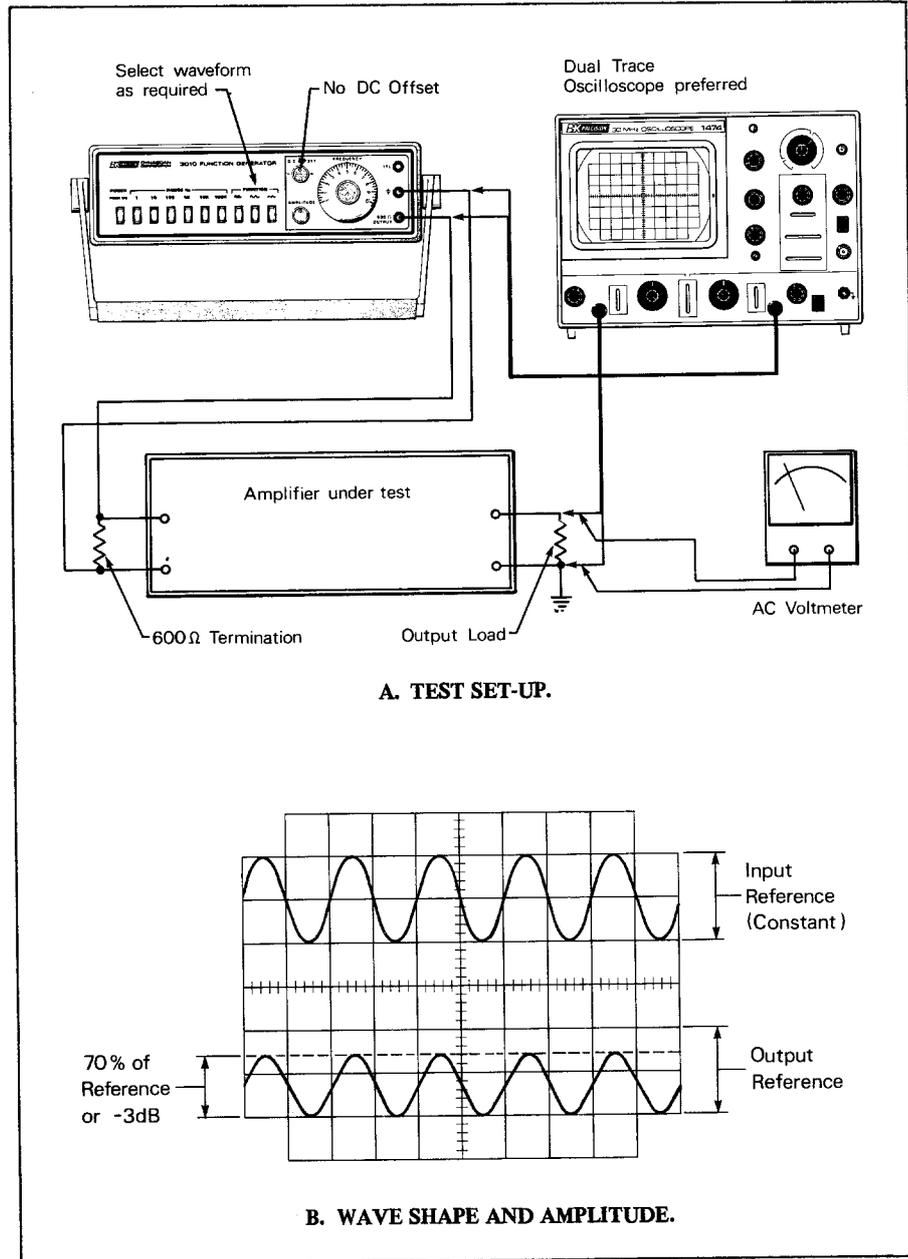

Fig. 5. Amplifier frequency response, manual frequency change.
**APPLICATIONS****A. AMPLIFIER FREQUENCY RESPONSE (See Fig. 5)**